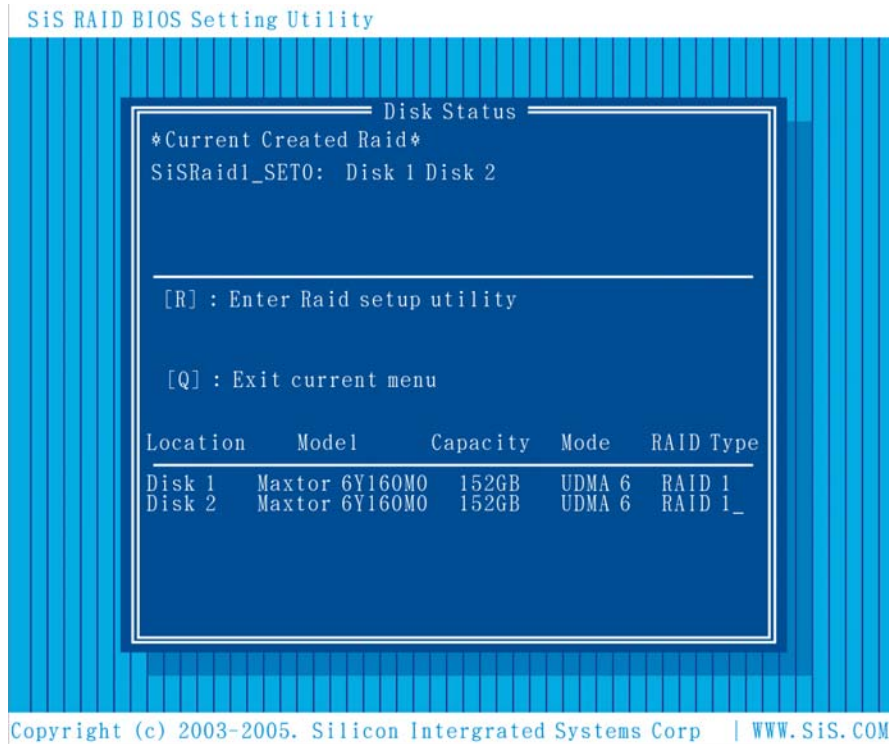

Figure 8-2: SiS RAID Setup Utility
Step 3: The **RAID Setup Utility** in **Figure 8-2** appears.